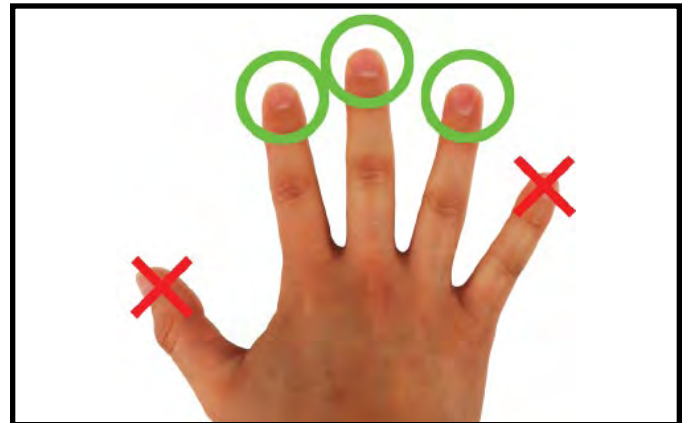

Figure 35. Recommended fingers for the fingerprint reader
- II. The index, middle, and ring fingers are recommended for use with the fingerprint reader. Avoid using the thumb and pinky fingers. These fingers can be awkward to position consistently on the reader (see Figure 35).